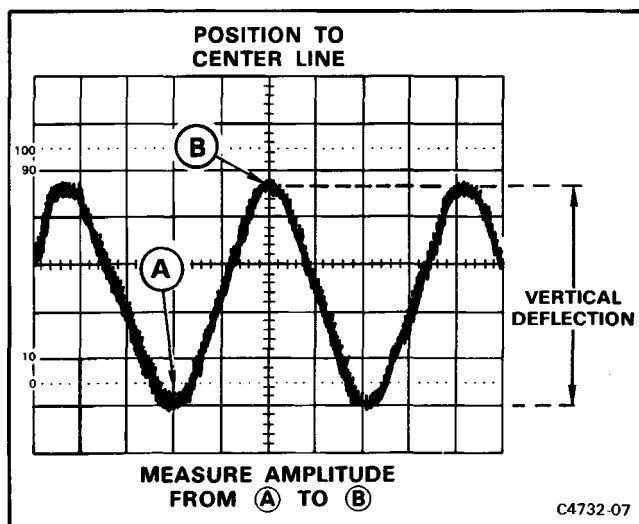

Figure 4-1. Peak-to-Peak waveform voltage.
6. Vertically position the display so that the negative peak of the waveform coincides with one of the horizontal graticule lines (see Figure 4-1, Point A).
7. Horizontally position the display so that one of the positive peaks coincides with the center vertical graticule line (see Figure 4-1, Point B).
8. Measure the vertical deflection from peak-to-peak (see Figure 4-1, Point A to Point B).
EXAMPLE: The measured peak-to-peak vertical deflection is 4.6 divisions (see Figure 4-1) using a 10X attenuator probe with the VOLTS/DIV switch set to 5 V (at 10X PROBE setting).